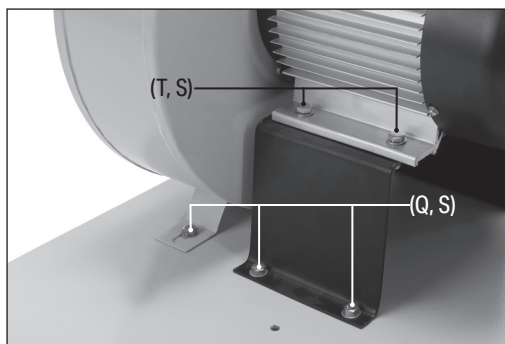

Fig. 3
- c. Secure each bolt with another washer (S) and an M8 nut (T) (Fig. 3).
3. Attach the motor/ducting unit and motor support to the base plate (Fig. 3):
- c. Pass six M8 x 16mm bolts (Q) each through a washer (S) and down through the holes in the motor and support assembly, and tighten them securely.